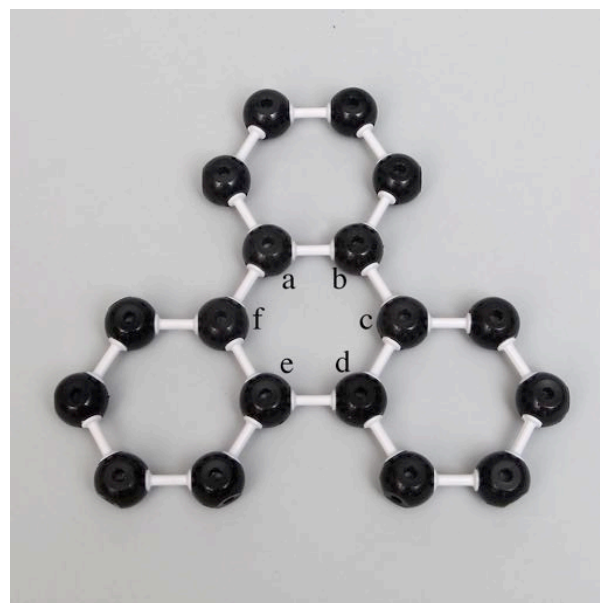

Fig 5 Three new rings.
2. Attach four atoms to pegs a and b of the hexagon to form another hexagon. Repeat with atoms c and d and then e and f. Make sure the axial holes point up and down. Fig. 5 shows the result of adding more atoms.